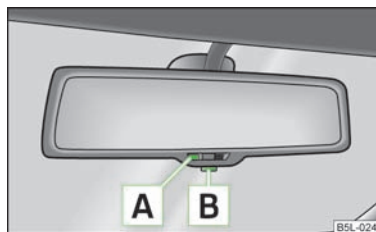

Fig. 39
- > Press the button **B** » Fig. 39, the indicator light **A** lights up.